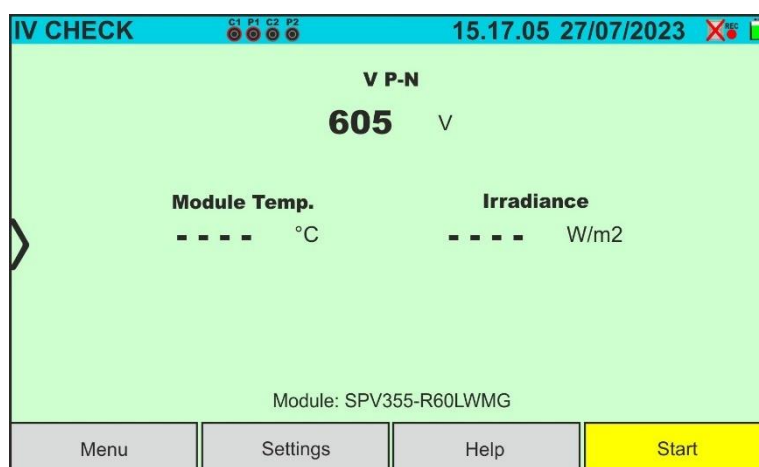

Fig. 74: IVCK test screen with SOLAR03 in synchronous recording on Monofacial modules
10. In the case of **Monofacial** modules, the Fig. 74 screen is shown on the display. The following parameters are indicated: